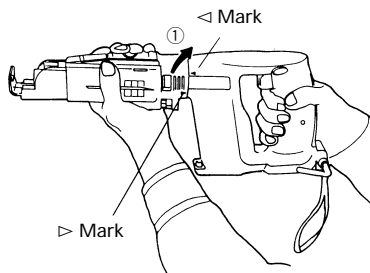
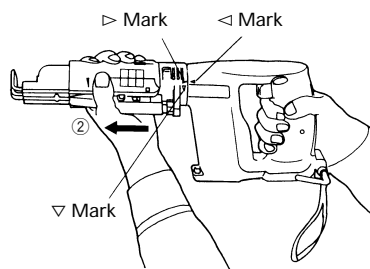

Fig. 5
Fig. 6
Secure the main body with one hand and turn the screw feed attachment with another hand in the direction of the arrow mark ① shown in Fig. 5. Align the "◁" mark of the main body and the "▷" mark of the screw feed attachment, then pull the attachment in the direction of the arrow mark ② shown in Fig. 6 to remove it.
Perform the installation procedures in the reverse sequence of the removal procedures. Position the screw feed attachment over the main body and align the "◁" mark of the main body and the "▷" mark of the screw feed attachment then turn the attachment in the direction of the "▽" mark shown in Fig. 6 to fix it.